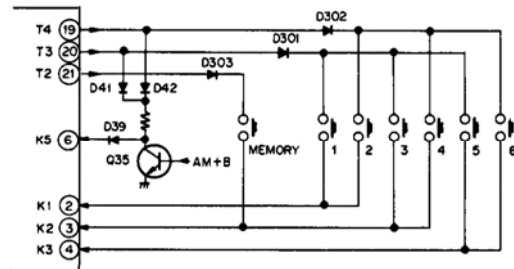

Fig. 4-11 Memory Write-in Circuit
The SX-D5000 can store up to 6 FM frequencies and 6 AM frequencies in its memory. When an input is applied to K2 according to T2 timing (MEMORY key), and then an input applied to K1–K3 according to T3 and T4 timing within a prescribed length of time (3 seconds)(STATION CALL key), the tuned frequency will be stored in one of the memories (1) to (6) (see Fig. 4-11 and Table 4). And by switching between AM and FM bands (an input applied to K5 according T3 and T4 timing), frequencies may also be stored in memories (7) to (12).